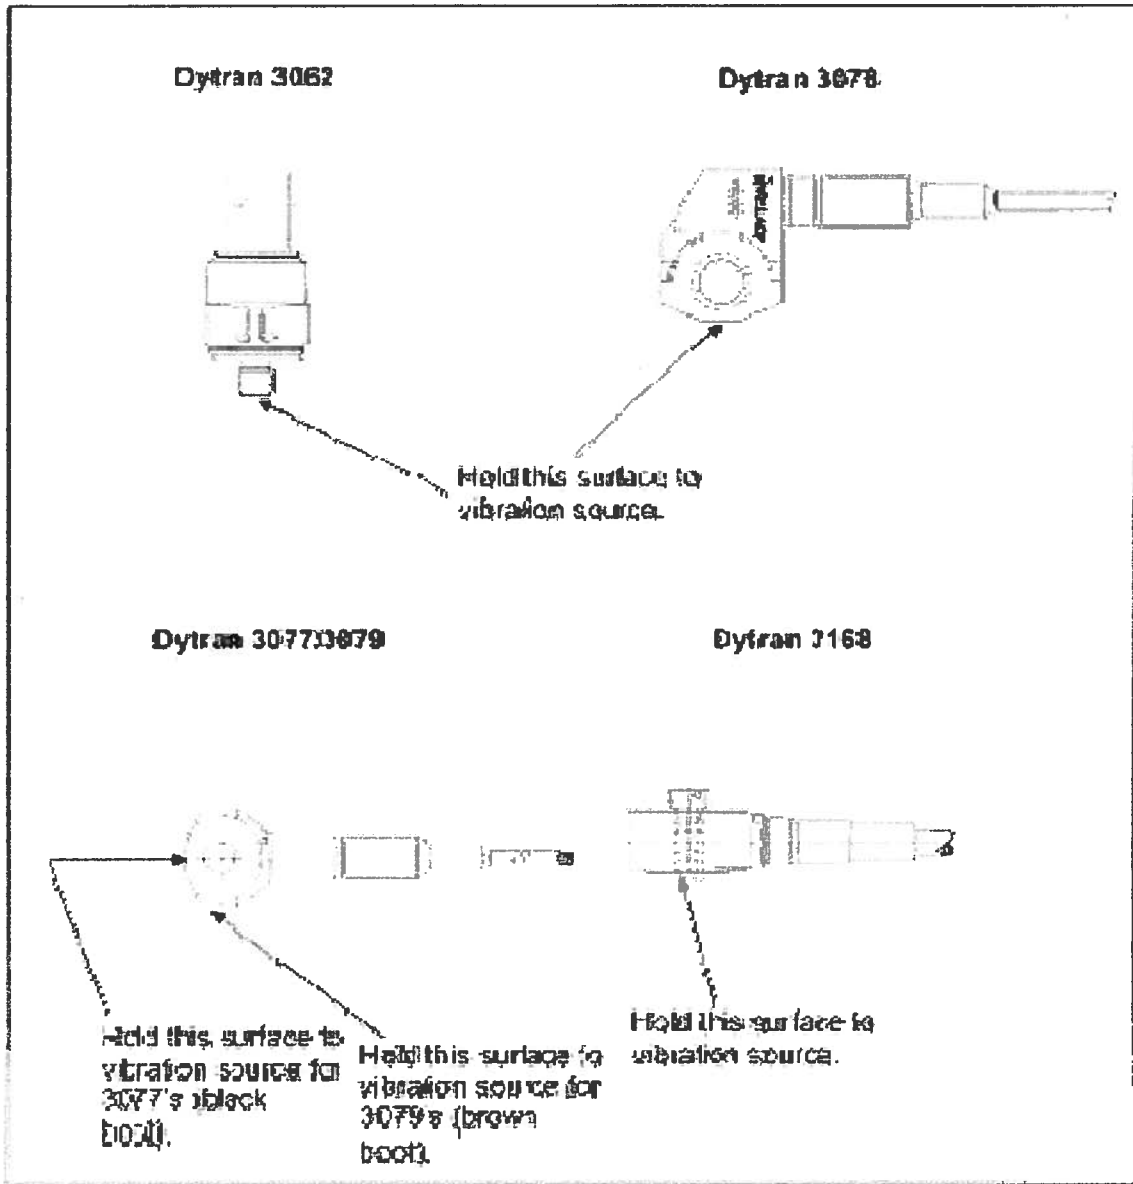

FIGURE 5 - ACCELEROMETER EXCITER ORIENTATION
- 9.5.1 Hold sensor to the side of the vibration exciter case and turn exciter ON (refer to Figure 5 for surface to apply vibration source).